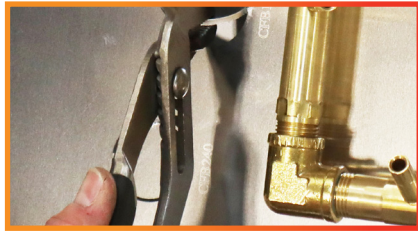

Figure 2: Breaking the Knockouts
- 1.3 Remove the matching knockout by placing a screwdriver or other small tool in the opening at the edge of the knockout. Push one side of the knockout down to break the connector and remove the circular piece of aluminum with pliers. Do not remove any other knockouts. **{See Figure 2}**